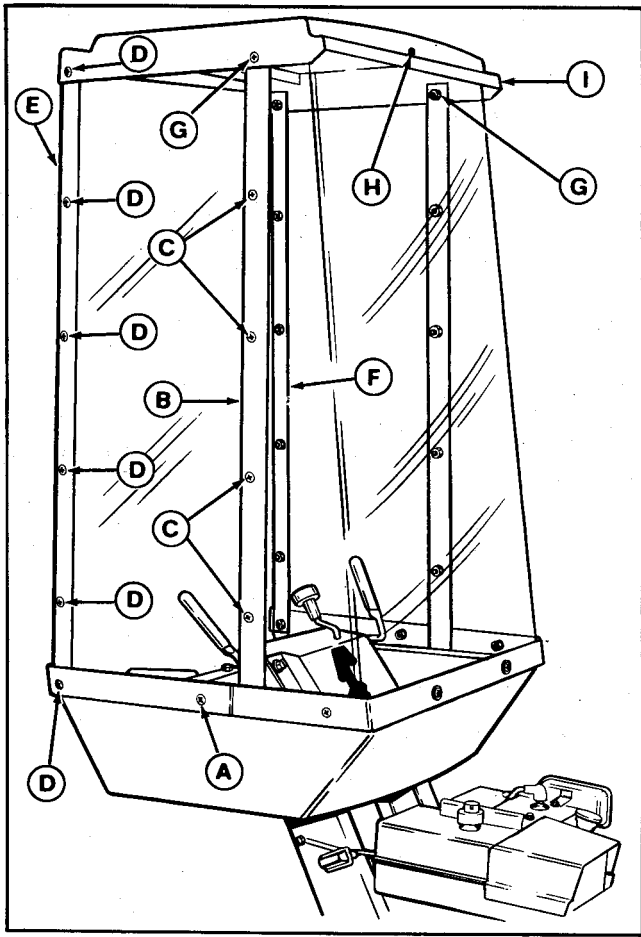

Figure 7
13. Place the top cover (I, figure 7) on the panels.
14. Install the two top screws (G) and nuts.